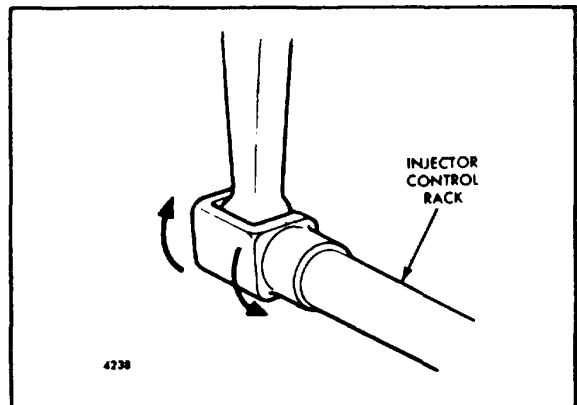
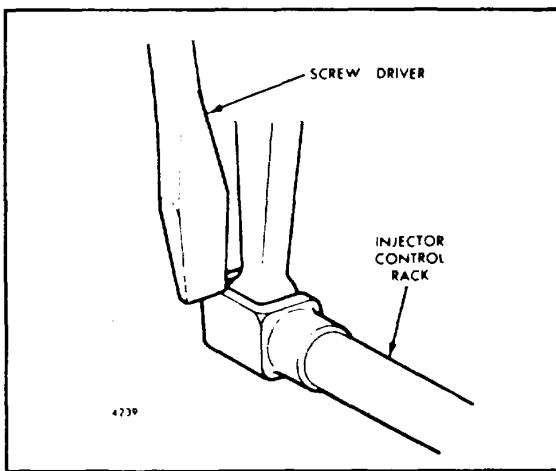

Fig 4 - Checking Rotating Movement of Injector Control Rack
Fig. 5 - Checking Injector Control Rack "Spring"
7. To be sure of the proper rack adjustment, hold the speed control lever in the maximum speed position and press down on the injector rack with a screw driver or finger tip and note "rotating" movement of the injector control rack (Fig. 4) when the speed control lever is in the maximum speed position. Hold the speed control lever in the maximum speed position and, using a screw driver, press downward on the injector control rack. The rack should tilt downward (Fig. 5) and when the pressure of the screw driver is released, the control rack should "spring" back upward.